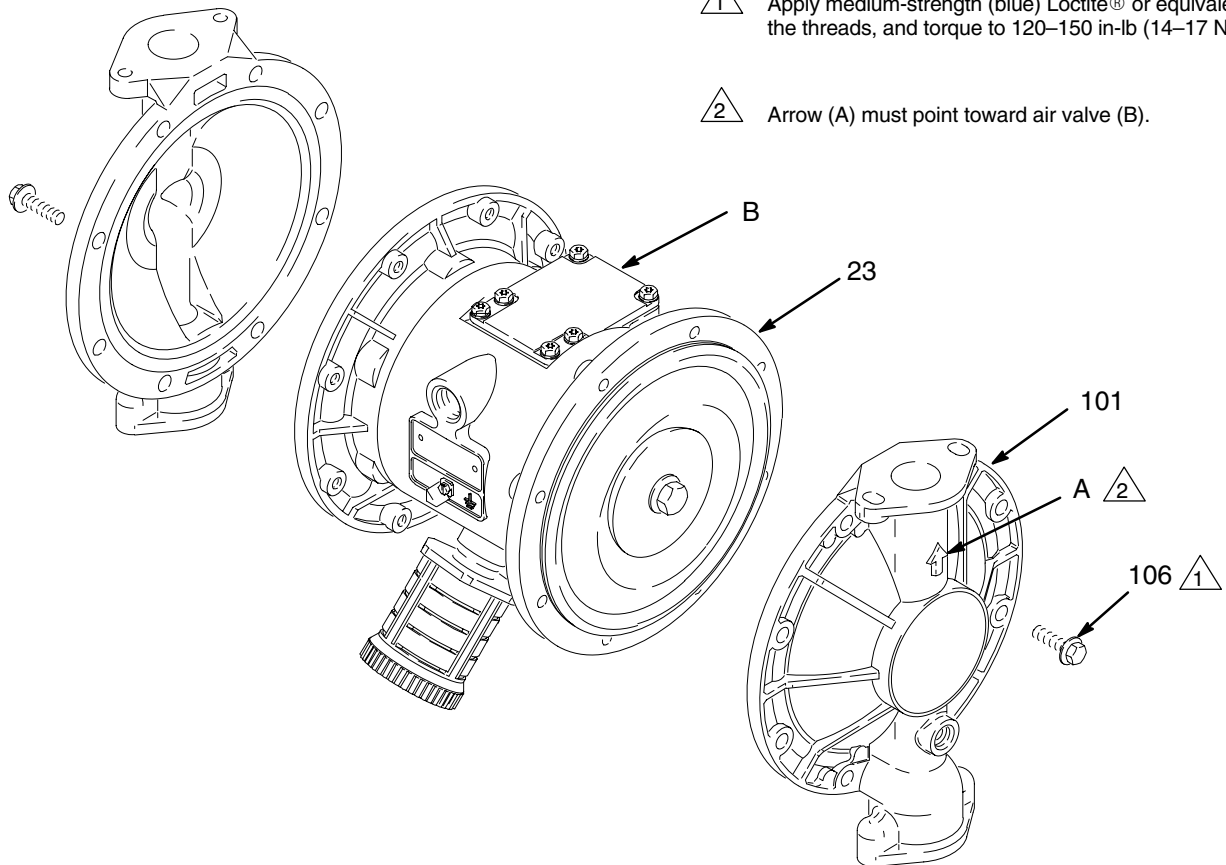

Fig. 13
3. Using a 10 mm socket wrench, remove the screws (106) holding the fluid covers (101) to the air covers (23). Pull the fluid covers (101) off the pump. See Fig. 13.
- a. Install the o-ring (108*) on the shaft bolt (107).
- b. Install the fluid side diaphragm plate (105) on the bolt so the rounded side faces the diaphragm (401).
- NOTE:** *On stainless steel pumps only*, the fluid side diaphragm plate (105) is stainless steel. This plate **is not** stamped with its part number. Be sure to install this plate on the fluid side of the diaphragm.
- c. *On PTFE[®] models only*, install the PTFE[®] diaphragm (403*). Make certain the side marked AIR SIDE faces the center housing (1).
- d. Install the diaphragm (401*) on the bolt. Make certain the side marked AIR SIDE faces the center housing (1).
- e. Install the air side diaphragm plate (104) so the rounded side faces the diaphragm (401). This plate is used on all models, and is stamped with its part number.
- f. Apply medium-strength (blue) Loctite[®] or equivalent to the bolt (107) threads. Screw the bolt into the shaft (24) hand tight.
3. Grease the length and ends of the diaphragm shaft (24), and slide it through the housing (1).
5. Hold one shaft bolt (107) with a wrench and torque the other bolt to 20–25 ft-lb (27–34 N.m) at 100 rpm maximum.
6. Align the fluid covers (101) and the center housing (1) so the arrows (A) on the covers face the same direction as the air valve (B). Apply medium-strength (blue) Loctite[®] or equivalent to the threads of the screws (106). Secure the covers with the screws handtight. See Fig. 13. Using a 10 mm socket wrench, torque the screws oppositely and evenly to 120–150 in-lb (14–17 N.m).